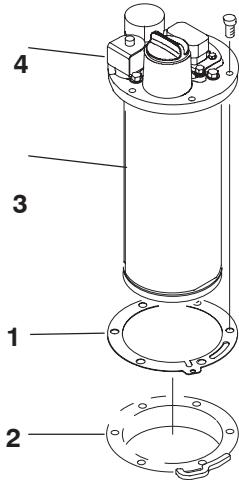

Figure 4
5. Position new flange gasket onto tank aligning mounting holes (Fig. 4). Holes are not symmetrical so make sure gasket is properly positioned.
6. Insert leak detector into tank opening while aligning housing mounting with holes in gasket (Fig. 4).
7. Secure leak detector housing and gasket to tank with (6) socket head capscrews (Fig. 4). Torque screws to 100–125 in-lb.